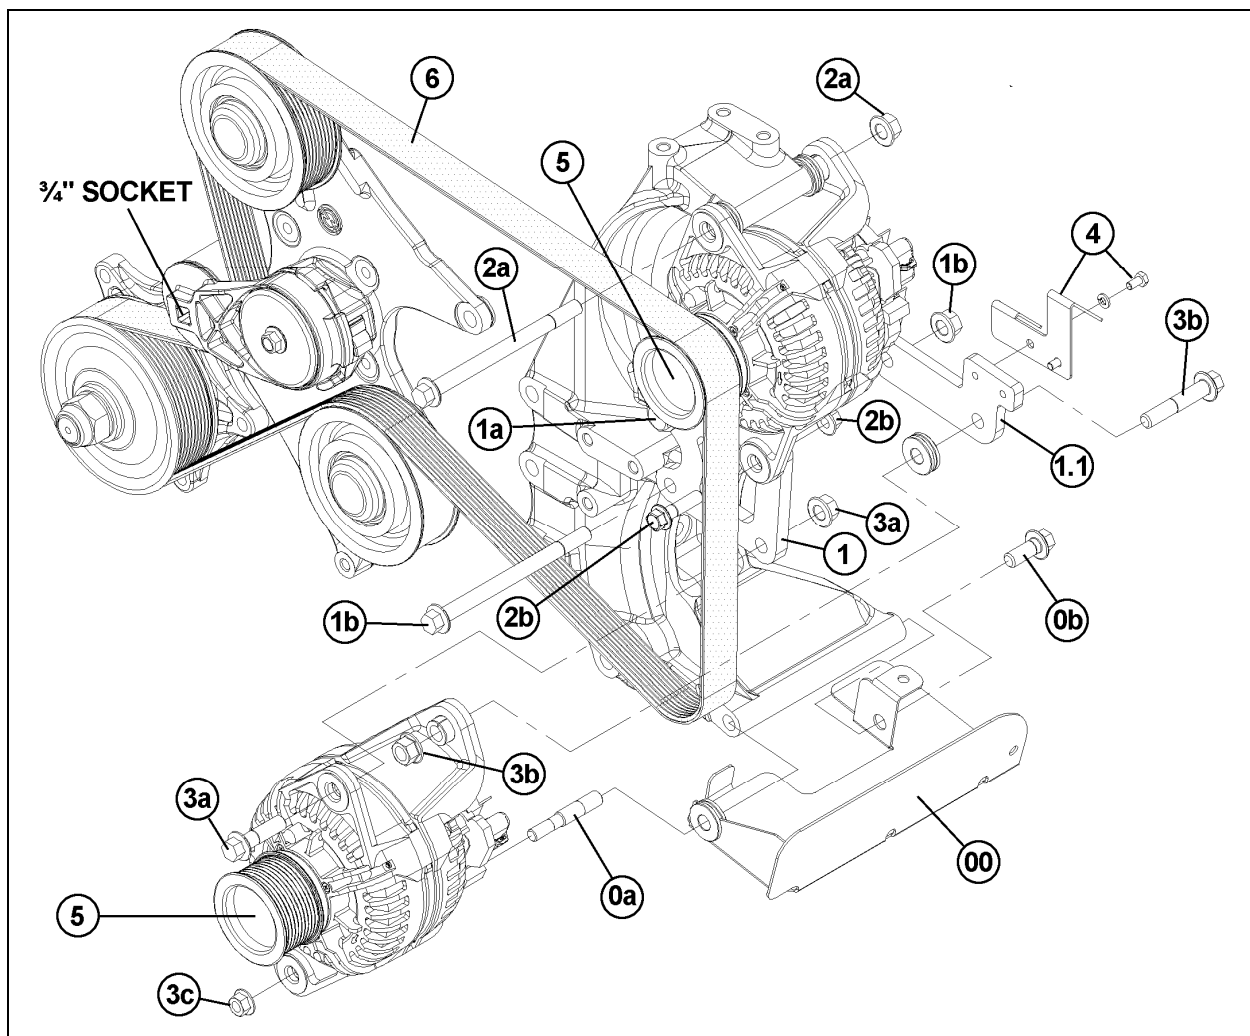

FIGURE 19: TWIN BOSCH ALTERNATORS INSTALLATION (DDEC SERIES 60)
1. If necessary, reinstall protector (00, figure 19) to the alternator support assembly. Use the stud (0a, figure 19) and bolt (0b, figure 19) to fix the protector. Use some Loctite 262 red (688910) onto the threads.
2. If removed, reinstall ring bracket (1, figure 19) and L-shaped bracket (1.1, figure 19). Fix the ring bracket using bolt (1a, figure 19) and also bolt and nut (1b, figure 19) for the ring bracket and L-shaped bracket. Use some Loctite 262 red (688910) onto the threads.
3. Mount the upper alternator using bolt and nut (2a, figure 19), and also bolt and nut (2b, figure 19).
4. Mount the lower alternator using bolt and nut (3a, figure 19), and also bolt and nut (3b, figure 19). Fix the lower portion of the alternator using nut (3c, figure 19).
5. Mount the cable bracket (4, figure 19) and fix using bolts (4, figure 19).
6. Mount pulleys (5, figure 19) onto alternators.
7. Install alternators belt (6, figure 19).
1. Insert a $\frac{3}{4}$ " socket drive into the automatic belt tensioner opening (Fig. 19).